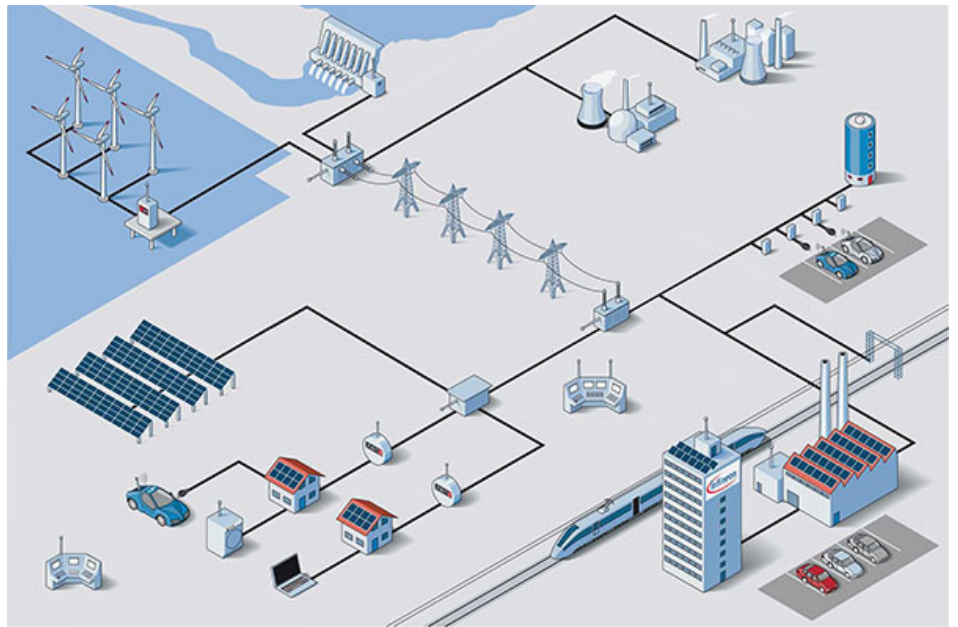

Figure 1: Smart grids will feature conventional and diversified electricity generation. (Courtesy of Infineon)
Another key difference between a smart grid and a conventional network is that electricity flows in both directions, which enables utilities to move away from centralized power generation and encourage distributed renewable energy sources such as wind turbines and photovoltaic (PV) panels on domestic consumers’ roofs (Figure 1). Smart grids also limit system losses, thus improving overall efficiency and helping to decrease the generation of carbon emissions and other pollutants[1].